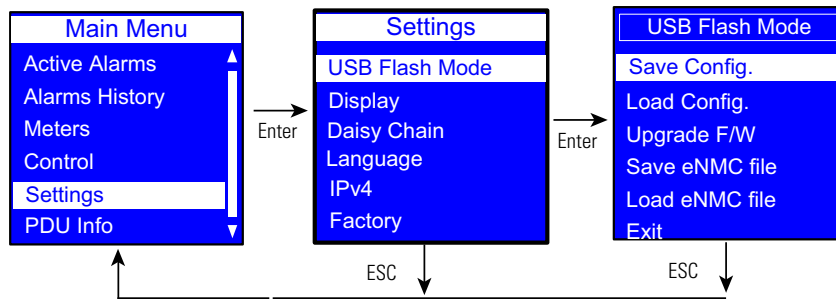

Figure 51. Example Save Config.
6. Select Save Config (see Figure 51).